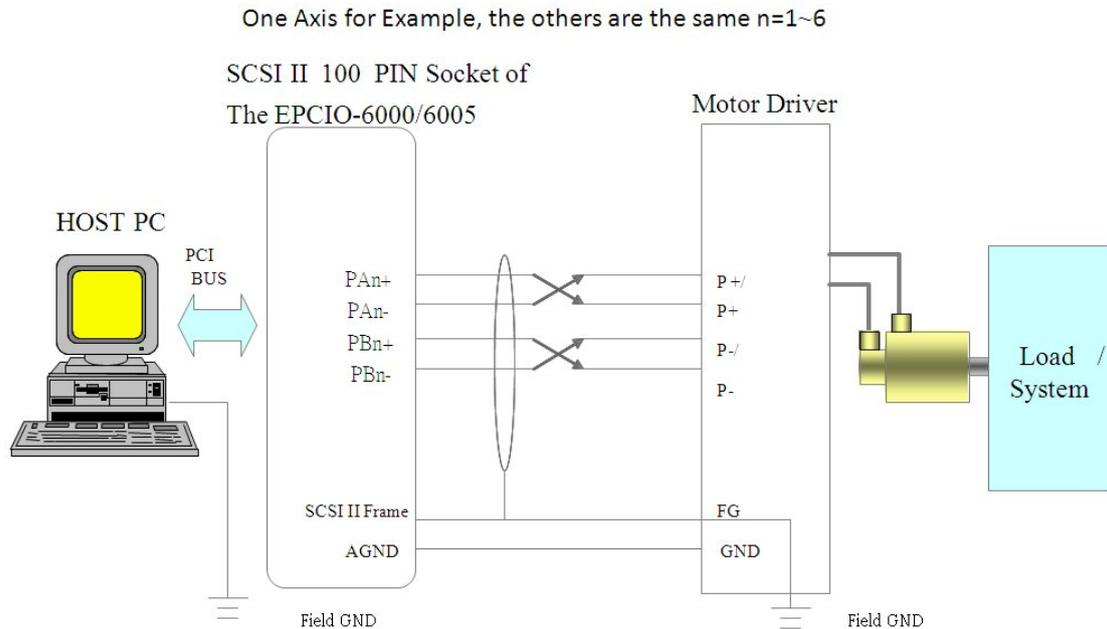

Fig. 3-6
As Fig. 3-6, the connection diagram of the pulse-command servo motor or the stepper motor for the EPCIO-6000/6005.
- The suggested above four lines use twisted-pair transmission wires to reduce the common-mode noise. As Fig.3-6 shows, use the shielded cable to isolate them from the peripheral device in order to reduce the interference.